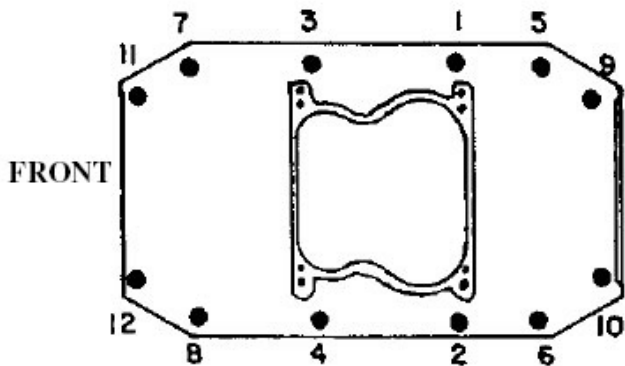

Figure 1
4. Install the intake manifold and the intake manifold bolts with hardened steel washers between the manifold and the bolt heads. Torque all of the manifold bolts in two steps by the sequence shown in **Figure 1** to 25 ft/lbs.